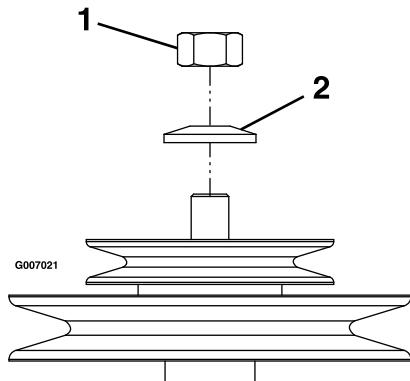

Figure 12
- **For LZAS Units:** Install the double sheave onto the right spindle shaft. Install the spring disc washer and nut. Make sure that the spring disc washer cone is installed towards nut (see Figure 12). Torque the sheave nut to 140-145 ft-lb (190-197 N-m).